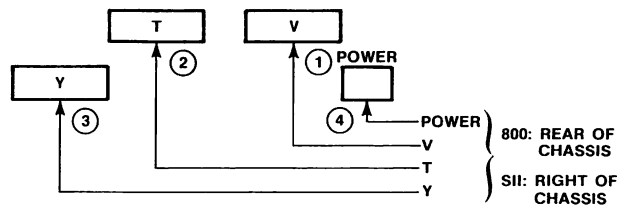

Figure A-3. Ribbon Cable Routing Diagram
- 9. **Connect buffer box cables.** Figure A-3 shows the suggested cable routing and order of connection. Observe the pin 1 indicators on connectors.